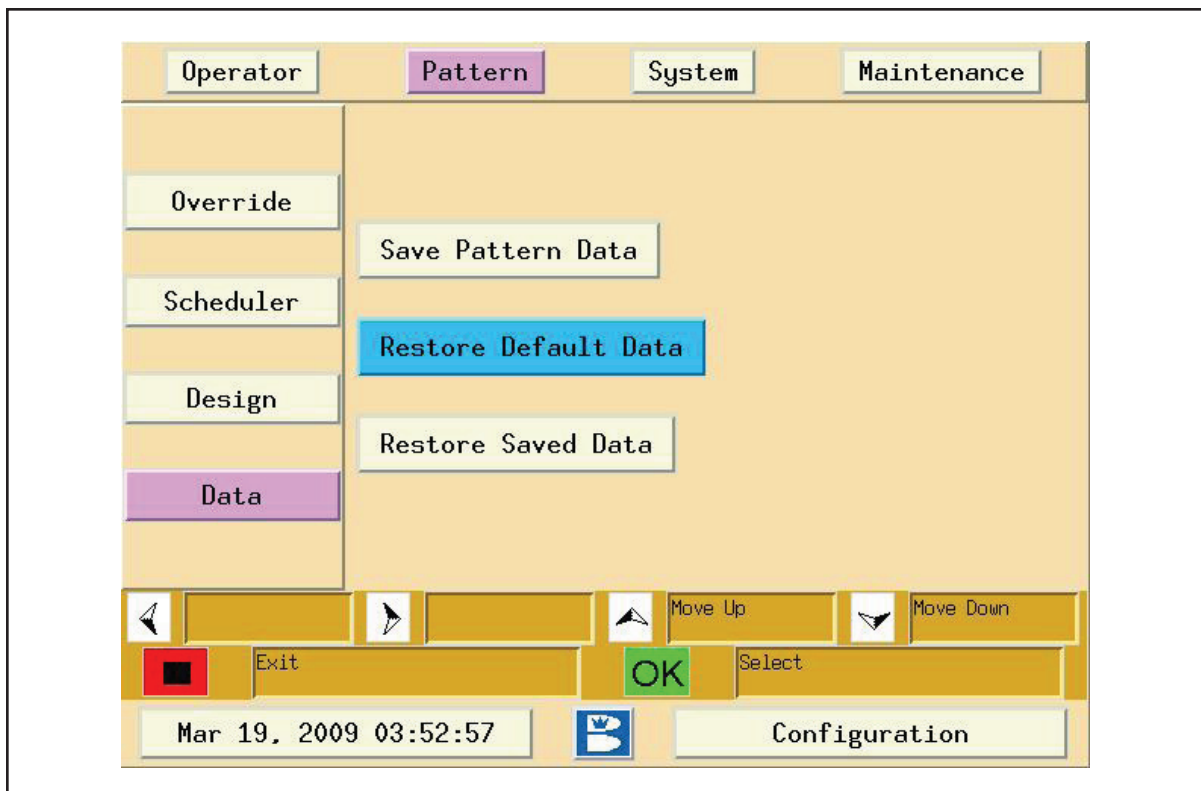

Figure 5-15. Restore Default Data Screen
**i** **NOTE:** The default Pattern Data cannot be changed. This function will always restore the 10 starting patterns that were set in the factory. Refer to Figure 5-15